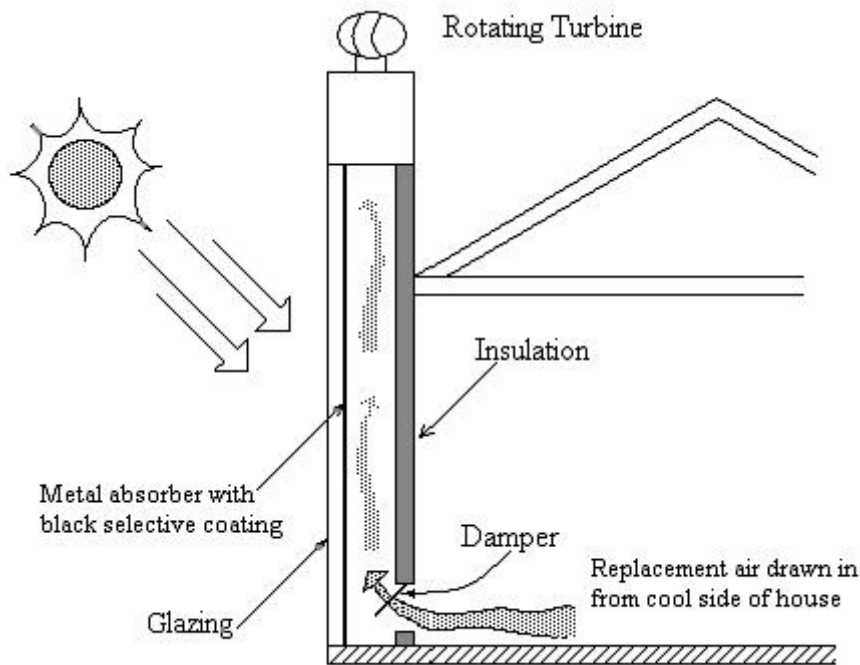
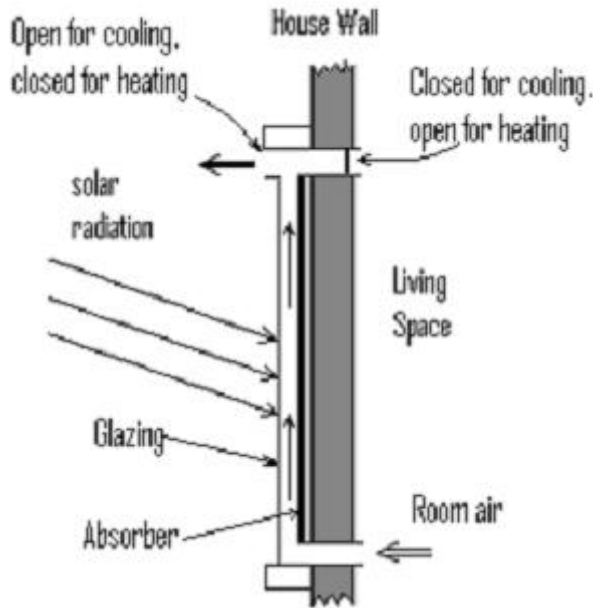

Figure 7. Solar Chimney
Figure 8. Vertical Convective Loop Collector used as Solar Chimney for Cooling
A **Solar Chimney** makes use of natural convection to increase natural ventilation rates even more than the air flow configurations shown in Figure 6. As shown in Figures 7 and 8, using solar energy to heat air in a vertical plenum, causes upward air flow in the plenum and draws air out of the living space.
Figure 7 is a solar chimney design to be used only for enhanced ventilation. Figure 8 is a convective loop, passive solar collector, that can be used for heating during the heating season and enhanced ventilation during the cooling season.
**Example #2:** Estimate the air flow rate through a convective loop, passive solar collector used as a solar chimney, as shown in Figure 8, with a height of 8 feet, air temperature of 150 °F in the collector, air temperature of 76 °F in the house, and one square foot openings for both inlet and outlet.
**Solution:** Substituting values into equation (1) gives: